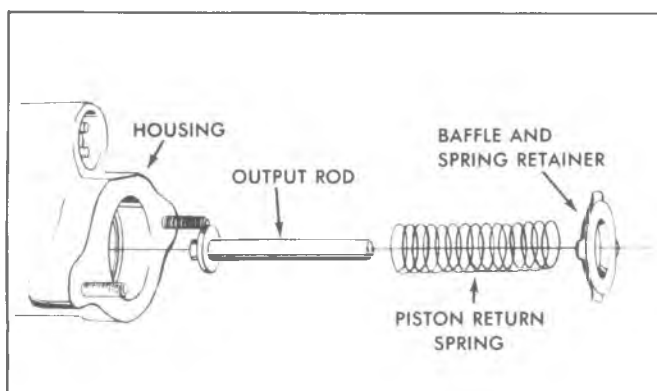

Fig. 5-3E--Output Rod, Spring and Retainer
6. With a small screwdriver, pry the plastic guide out of the output push rod retainer. Disengage the tabs of the spring retainer from the ledge inside the opening near the master cylinder mounting flange of the booster. Remove the retainer, the piston return spring and output rod from the opening (fig. 5-3E).